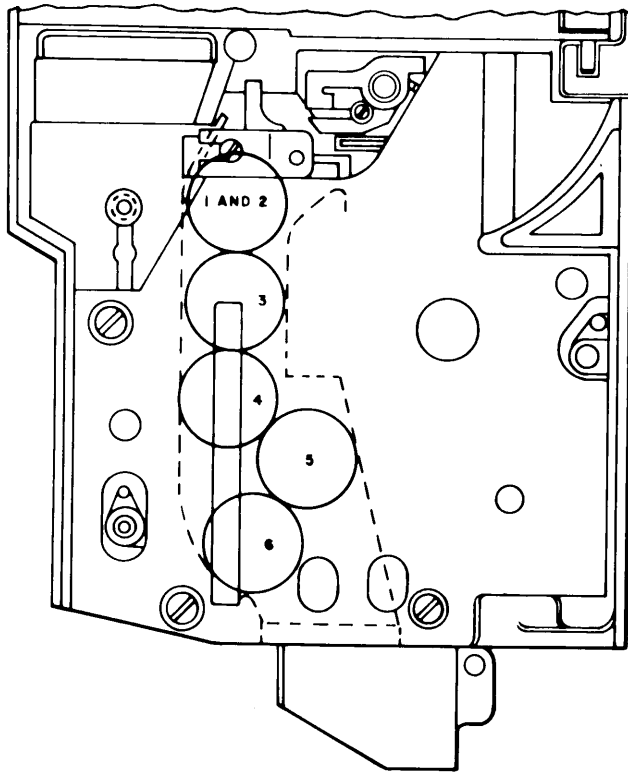

Fig. 53—Lower Portion of Coin Chute With Six Dimes Jammed
Note: Several conditions can be encountered with dime jams. Most jams involve only two or three dimes but others can involve as many as six dimes, blocked at both ends as shown in Fig. 53 with the top two overlapped.
(4) Proceed as follows if two dimes are completely overlapped as shown in Fig. 53: